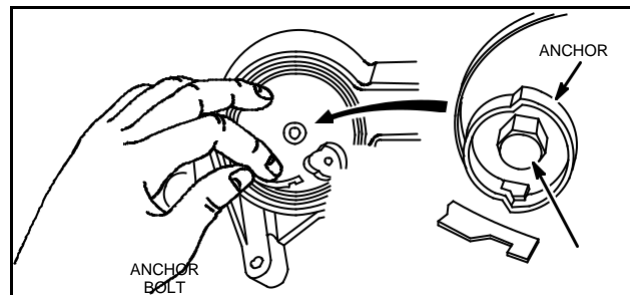

Fig. 619 – REMOVING SPRING ANCHOR
5. Remove anchor bolt and anchor, Fig. 619.